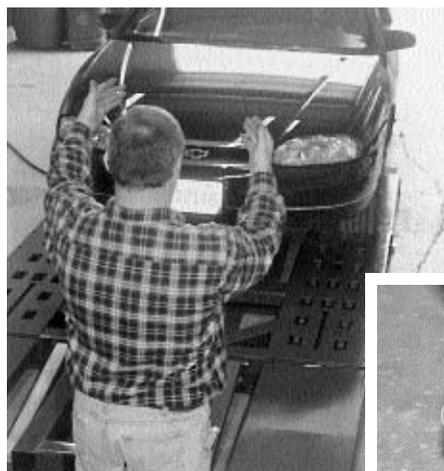

Figure 16
1. With the aid of an assistant to guide you, drive vehicle slowly onto mainframe (see Figure 16) until vehicle is centered over mainframe. Wheels should be close to but not touching wheel stops. (See Figure 16 inset.)